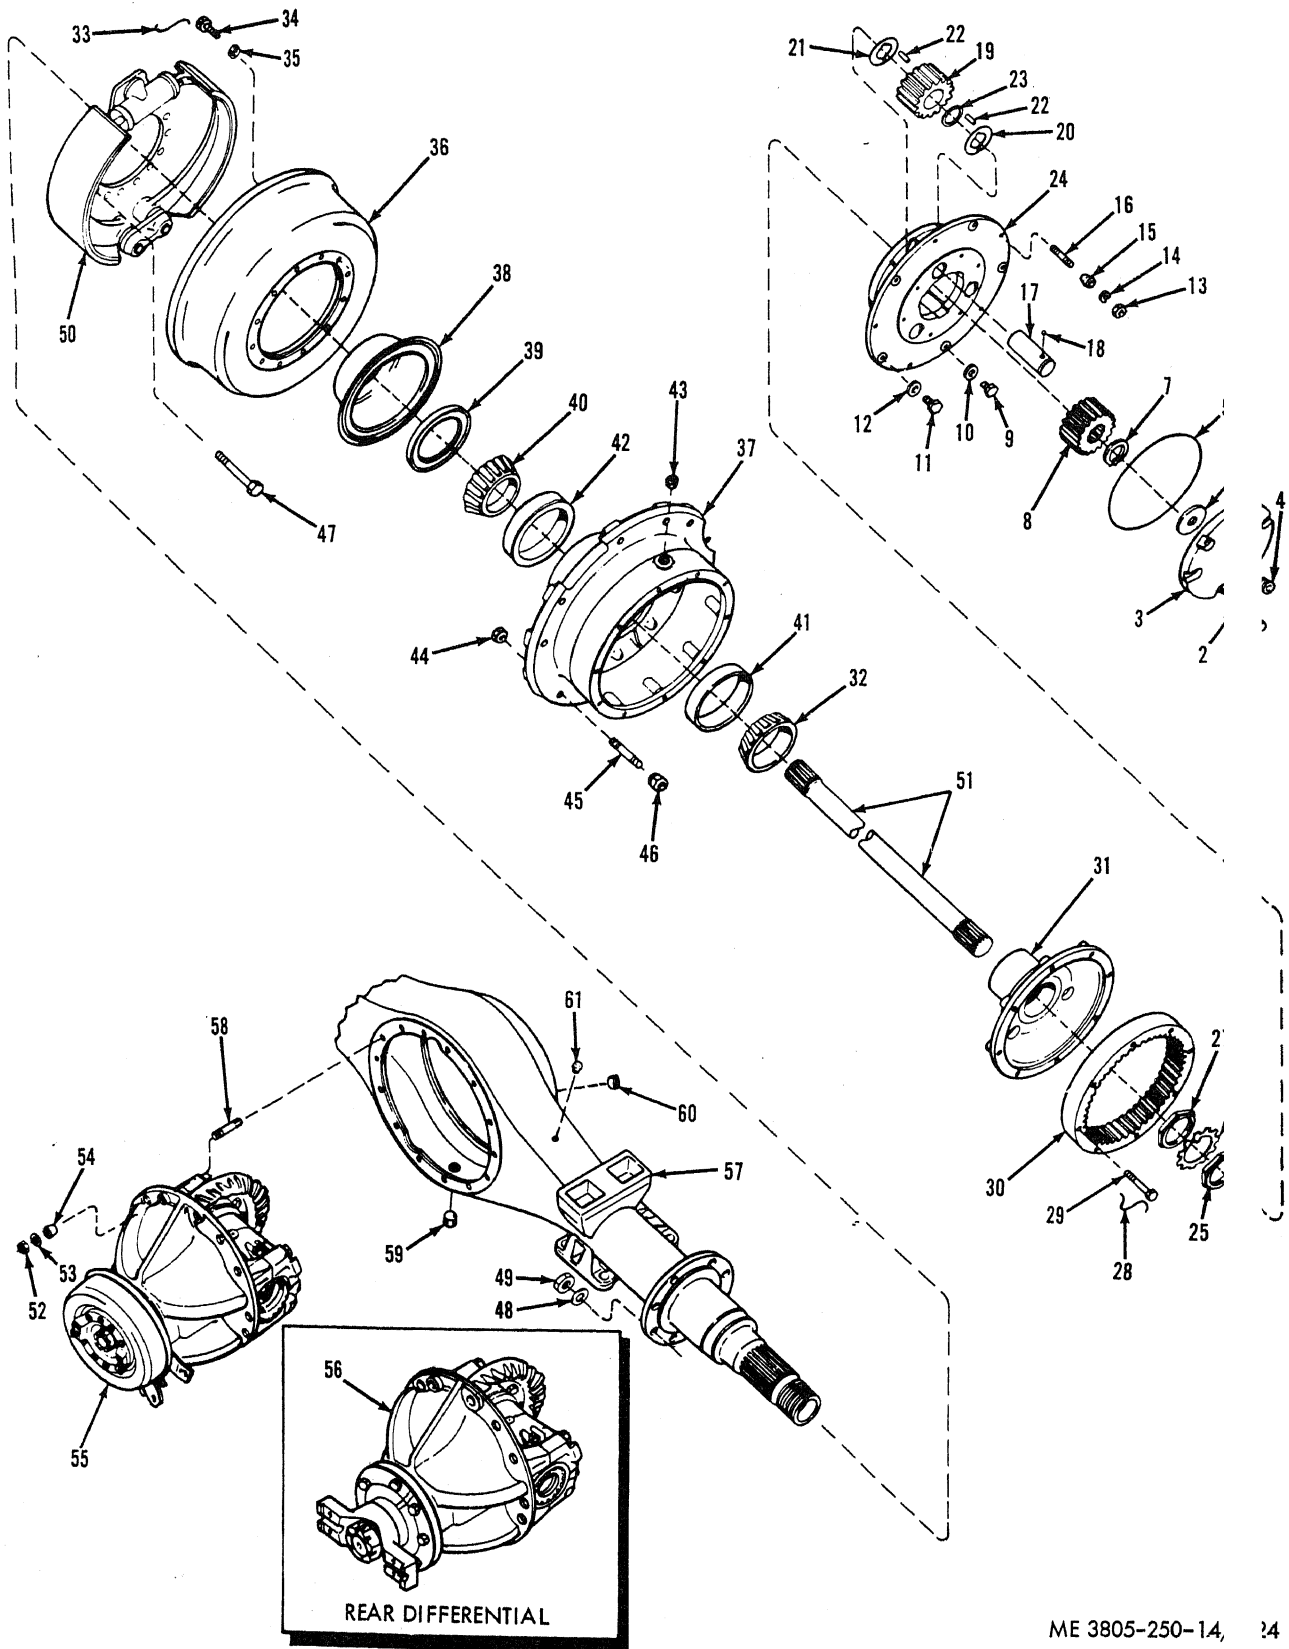

Figure 7-24. Planetary drive and axle housing exploded view.
(1) Refer to paragraph 5-7 and remove the planetary drive and axle housing from the vehicle.
(2) Place the assembly on steel horses, with the mounting pads on the flat surface of the horses.
b. Disassembly. Refer to figure 7-24.
(1) Remove bolts (1), and lockwashers (2), and remove planetary cover (3). Remove plug (4) and seal (5) from the cover and separate the cover and sun gear thrust washer (6).
KEY to fig. 7-24:
(6) Remove the outer spindle nut (25, fig. 7-24), lockwasher (26) and inner spindle nut (27).
(7) Support the weight of the brake drum and hub assembly with a hoist, and remove the internal gear and hub assembly.
(8) Remove and discard lockwire (28), and remove bolts (29) securing ring gear (30) to hub (31). Pull bearing cone (32) from hub (31).
(9) Pull the brake drum and hub assembly from the axle housing. Remove and discard lockwire (33), and remove bolts (34) and washers (35) securing the brake drum (36) to the wheel hub (37). Remove oil catcher (38).
(10) Pry oil seal (39) from the wheel hub (37), and lift out bearing cone (40). Drive bearing cups (41 and 42) from the wheel hub. Remove nuts (44) and studs (45) from the hub. Nuts (46) were previously removed when the wheels were removed.
(11) Remove bolts (47), lockwashers (48), and nuts (49) securing the brake assembly (50) to the axle housing. Slide axle shaft (51) out of the housing.
(12) Remove nuts (52), washers (53) and tapered dowels (54) securing front differential and carrier assembly (55) or rear differential and carrier assembly (56) to the axle housing (57). Remove studs (58), plug (60) and breather (61) from the housing only if replacement is necessary.
(1) Clean all parts thoroughly with solvent and dry with compressed air. Do not use compressed air to dry the bearings. Flush the bearings thoroughly with solvent and allow them to air dry.
(2) Inspect the axle housing for cracks, fatigue lines, and damage to the machined surfaces. Repair cracks by welding. Build up and remachine finished surfaces if needed. Remove burrs and minor surface damage with a suitable honing stone or emery cloth. Replace a badly damaged axle housing.
(3) Inspect the brake drum for cracks, scoring, roughness and other damage. Turn down scored or rough drum on a lathe. Do not remove more metal than is necessary to smooth the braking surface. The maximum allowable inside diameter of the drum is 17.37 inches. Replace drum if cracked or if inside diameter of the drum cannot be cleaned up by machining.
(4) Inspect the planetary carrier, internal hub, and wheel hub, for cracks and damage to machined surfaces. Repair cracks by welding and remachining, if feasible. Remove burrs and other minor surface damage with a suitable honing stone or emery cloth. Replace badly damaged parts.
(5) Inspect the planetary pinions, internal gear, sun gear, and the axle shaft for nicks, cracks, chipped, scored, broken, or excessively worn teeth, and other damage. Perform a magnetic particle inspection on these parts. Remove burrs with a suitable honing stone. Replace badly worn or damaged parts.
(6) Inspect the bearing cups and cones for nicks, scratches, scoring, pitting, and flat spots. Replace bearing cones and cups if either is damaged.
(7) Inspect the planetary pins and rollers for nicks, scratches, scoring, and wear. Replace the pins or rollers if damaged.
(8) Inspect the pinion thrust washers and the sun gear thrust washer for damage and wear. Replace excessively worn thrust washers.
d. Reassembly. Refer to figure 7-24.
(1) Refer to paragraph 7-13 and install the rear differential and carrier assembly (56) or front differential and carrier assembly (55) on the axle housing (57). Use a hoist to position the differential on the housing. Install tapered dowels (54), washers (53) and nuts (52), and tighten nuts to 75 to 85 pound-feet.
(2) Slide the axle shaft (51) into the housing and engage the splines of the differential side gears.
(3) Install the wheel brake assembly (50) and secure with bolts (47), nuts (49) and lockwashers (48). Tighten the nuts to 120 to 130 pound-feet.
(4) Press bearing cups (41 and 42) in the wheel hub (37) with locally-fabricated bearing driver (fig. 5-2) to seat the cups. Lubricate bearing cone (40 fig. 7-24) with gear oil, and install it in bearing cup (42).
(5) Coat the outer surface of oil seal (39) with sealant and press the seal into the wheel hub using locally-fabricated seal driver (fig. 5-9). The seal lip faces inward. Position the oil catcher (38 fig. 7-24) and brake drum (36) on the wheel hub, and install bolts (34) and flat washers (35). Tighten the bolts to 167 ± 8 pound-feet. Install lockwire (33) to retain bolts. Install the drum and hub assembly on the axle housing, and support it with a hoist.
(6) Using locally-fabricated bearing driver shown in figure 5-3, press bearing cone (32 fig. 7-24) onto the internal gear hub (31). Position the ring gear (30) on the hub (31) and install bolts (29). Tighten bolts to 110 ± 5 pound-feet and secure with lockwire (28). Install the hub and ring gear assembly on the axle, engaging the splines in the hub with the splines on the axle housing.
(9) Install lockwasher (26 fig. 7-24) and spindle nut (25), and tighten to secure the inner nut. Bend two tangs of the lockwasher against flats of the inner nut, and two tangs against the flats of the outer nuts.
(10) Coat the inside of the planet pinions with grease and install two rows of rollers (22) separating them with spacer (23). Position planet pinion in the carrier (24) with thrust washers (20 and 21). Make sure the tangs on the thrust washers engage the grooves in the carrier. Press in pinion pins (17) making sure the ball recess is aligned with the groove in the carrier. Insert ball (18) and complete the press. Pins must be flush with the face of the carrier. Stake the ball groove in two places to retain the ball.
(11) Apply a light coating of sealant to the mounting flange of the planetary carrier (24) and